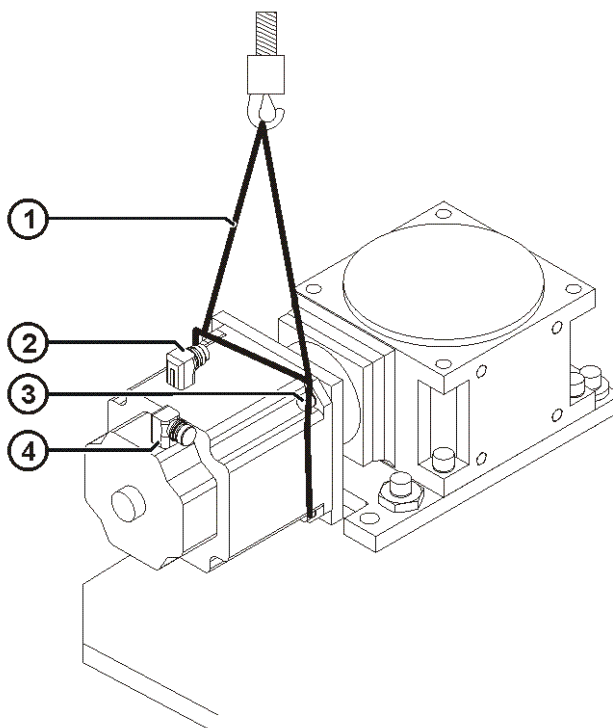

Fig. 11-3: Removing the servomotor
- Slacken four Allen screws (>>> Fig. 11-3) (3) but do not remove them.
- Remove the four Allen screws (3) together with lock washers.